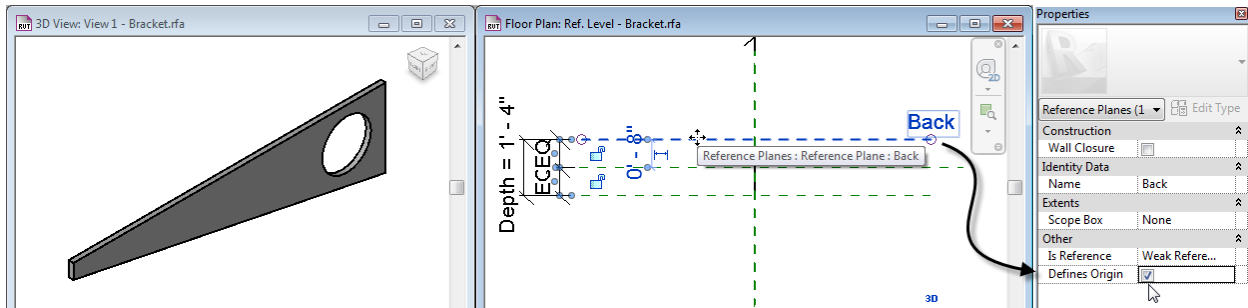

Figure 23
1. In the Plan view, select the Back reference plane. On the Properties palette, check the **Defines Origin** checkbox (see Figure 23).